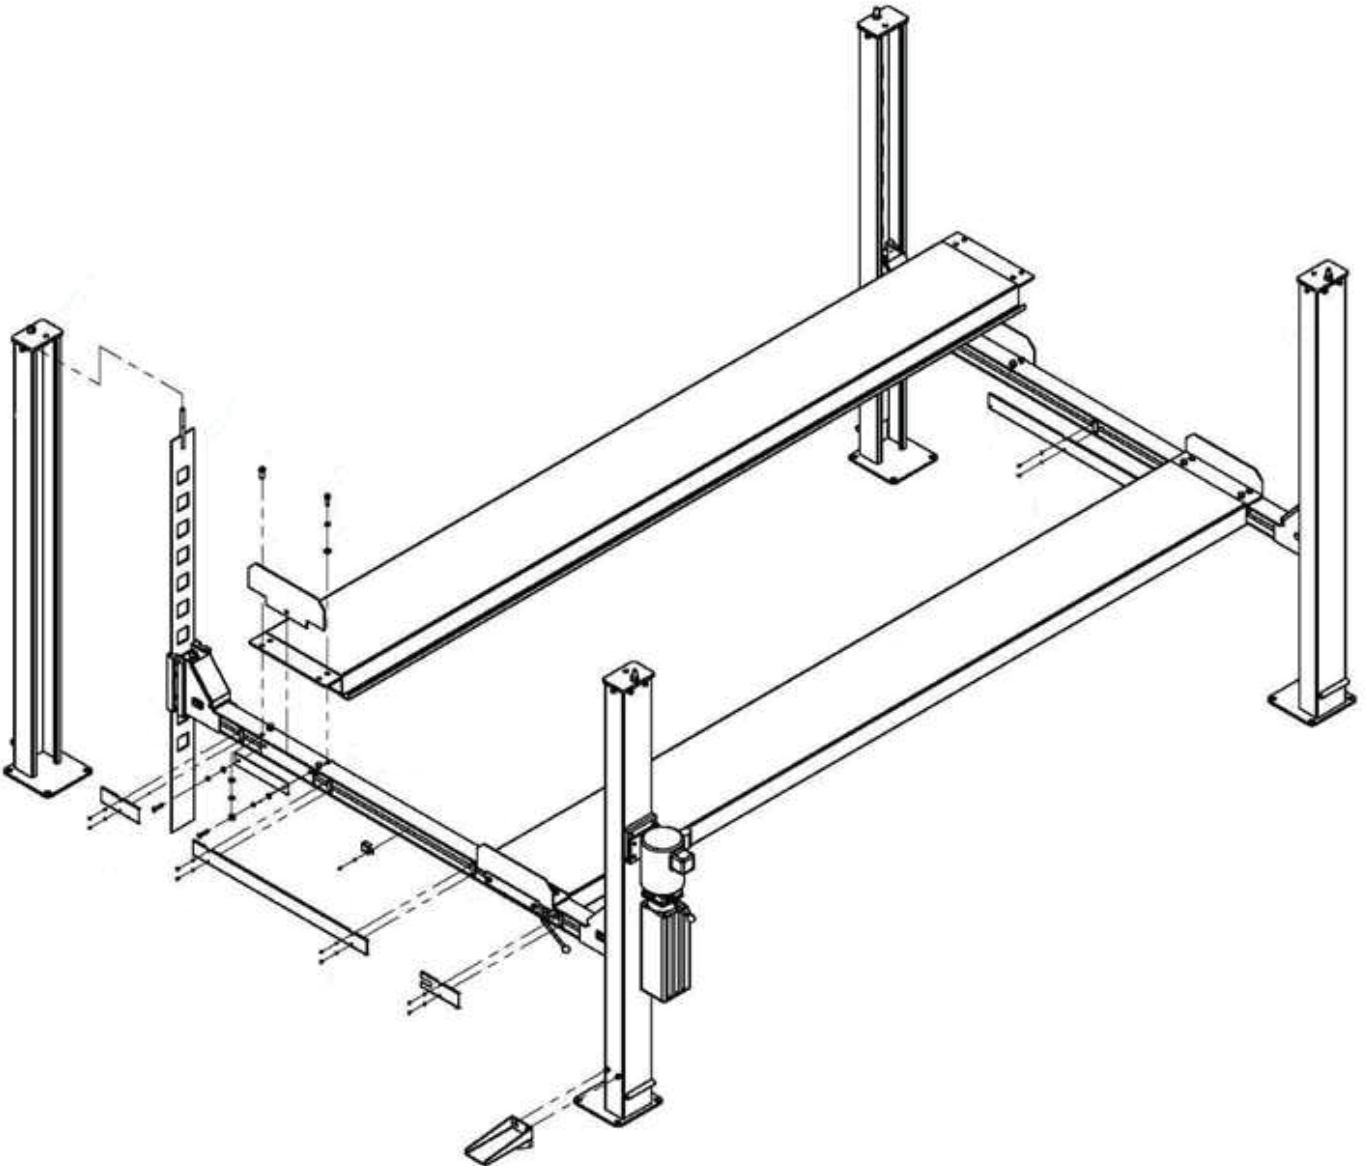
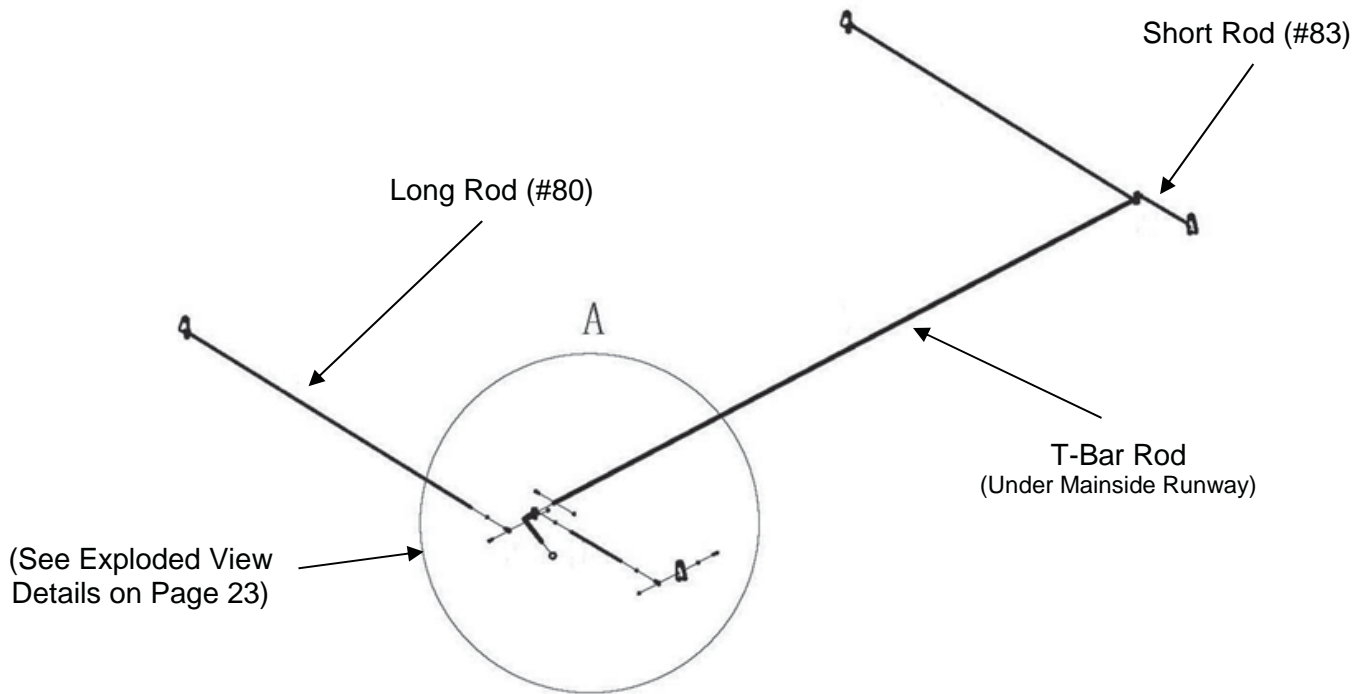

Fig. 6
Fig. 8
15. Lift and position each Runway into place and secure to top of Crossbeams with the provided Hex Bolts (#24), Lock Washer (#25), Flat Washer (#26), as shown in Fig. 6. The lift will square itself as you further assemble it.
Note: Ensure to install the 'offside' Sub Runway opposite from the Main side Runway and Power unit Column as shown in Fig.6.
18. Install Lock Rods & Linkage components per the drawing Fig.8. Also, install the Crossbeam Bracket (#96) to middle / outside of each Crossbeam and secure with the provided Hardware shown in Fig.6. **Note: Crossbeam Linkage Rods may be pre-installed to Crossbeams. Also, ensure pre-installed T-Bar 'linkage' Rod is properly routed through guide ring weldments located on the underside of the Mainside Runway.**